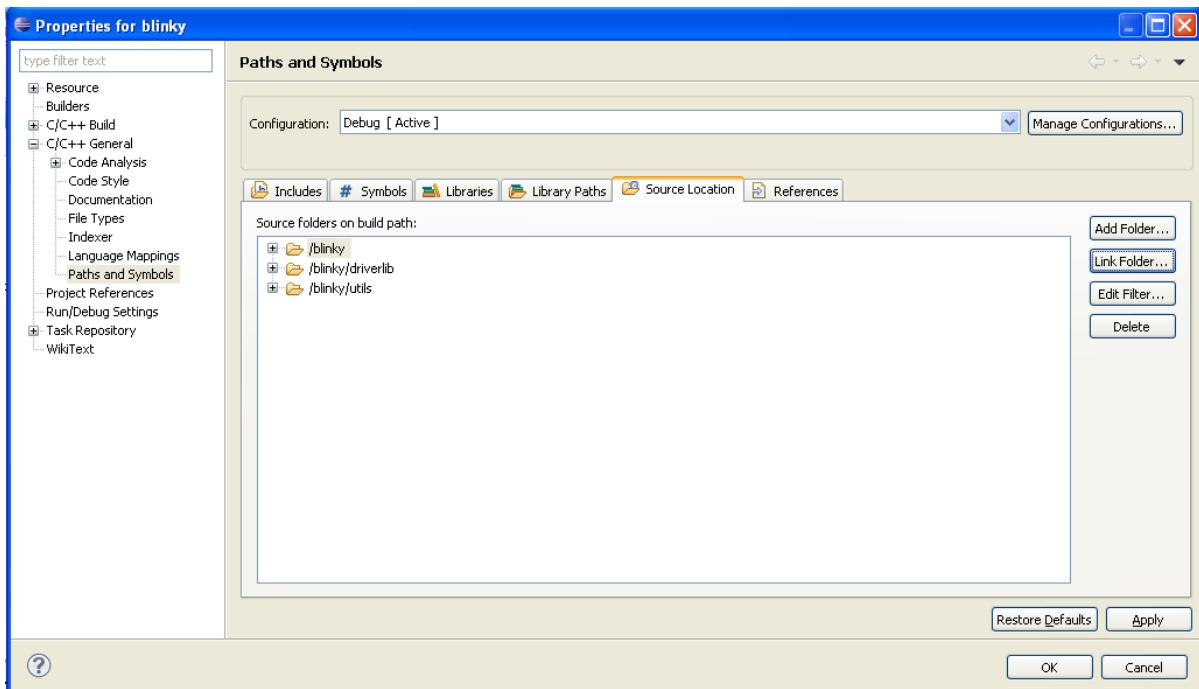

Figure 11.19 Paths and Symbols
- Include the files as shown in Figure 11.19 and select Apply.